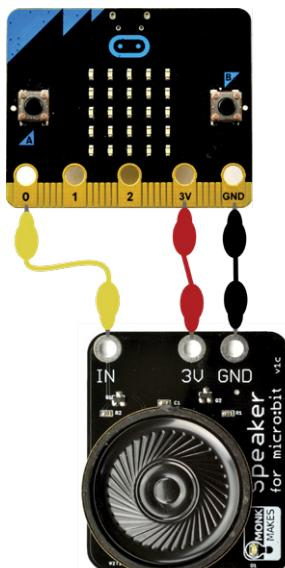
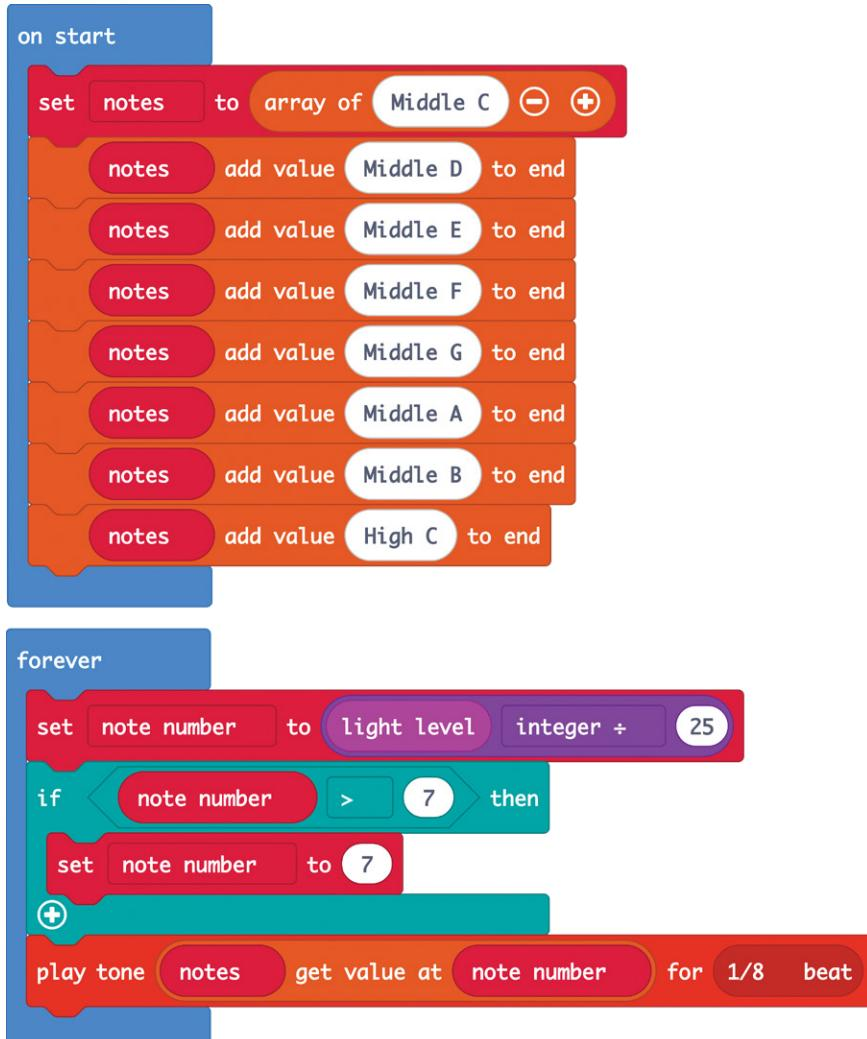

Figure 3-2: Attaching the micro:bit to a speaker
*Figure 3-7: Connecting the micro:bit to the speaker*
1. Connect the speaker to the micro:bit using the three alligator cables, as shown in Figure 3-2.
8. Flip the whole thing over and connect the micro:bit and speaker, as shown in Figure 3-7. Reference Figure 3-2 if you need help with the connections.